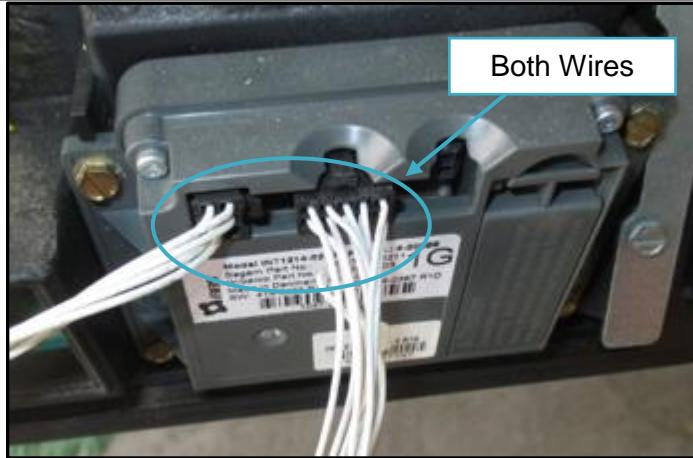

Fig. 1.6 – Unplug user keypad harnesses
- 4) Unplug the user keypad harnesses if it is present. (Fig. 1.6)